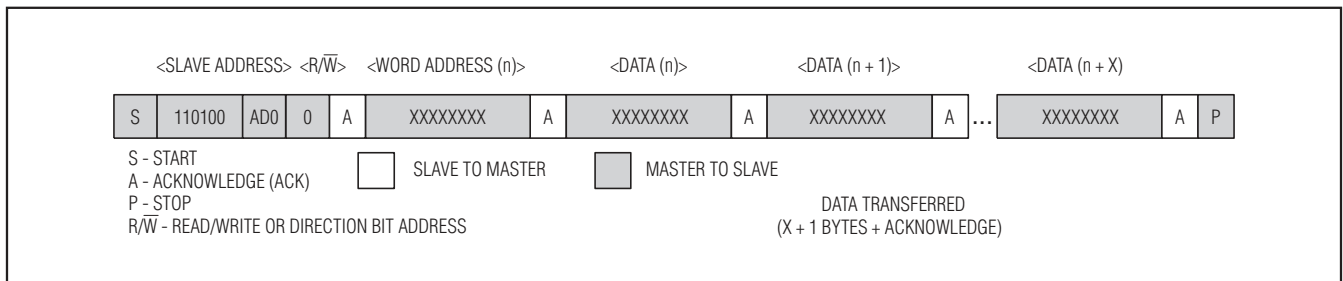

Figure 6. Data Write—Slave Receiver Mode
- 1) **Slave receiver mode (DS1372 write mode):** Serial data and clock are received through SDA and SCL. After each byte is received an acknowledge bit is transmitted. START and STOP conditions are recognized as the beginning and end of a serial transfer. Address recognition is performed by hardware after reception of the slave address and direction bit (see Figure 6). The slave address byte is the first byte received after the master generates the START condition. The slave address byte contains the 7-bit DS1372 address, which is 110100 and AD0. Each slave address is followed by the direction bit (R/W), which is zero for a write. The bit position signified by A is compared to the value on the AD0 input pin. After receiving and decoding the slave address byte, the device outputs an acknowledge on the SDA line. After the device acknowledges the slave address and write bit, the master transmits a register address to the device. This sets the register pointer on the device. After setting the register address, the master then transmits each byte of data with the DS1372 acknowledging each byte received. The master generates a STOP condition to terminate the data write.